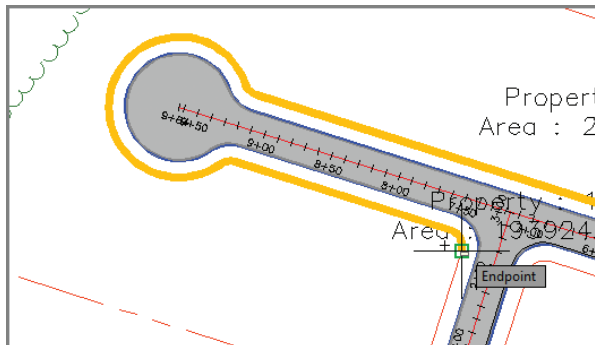

FIGURE 12.14 Selecting the ending point of the frontage
5. When you're prompted for the endpoint of the frontage, move your cursor along the west right-of-way line of Jordan Court and then along the north right-of-way line of Madison Lane. Move your cursor around the Madison Lane cul-de-sac, and snap to the endpoint of the right-of-way line at the intersection of Madison Lane and Logan Court, as shown in Figure 12.14.